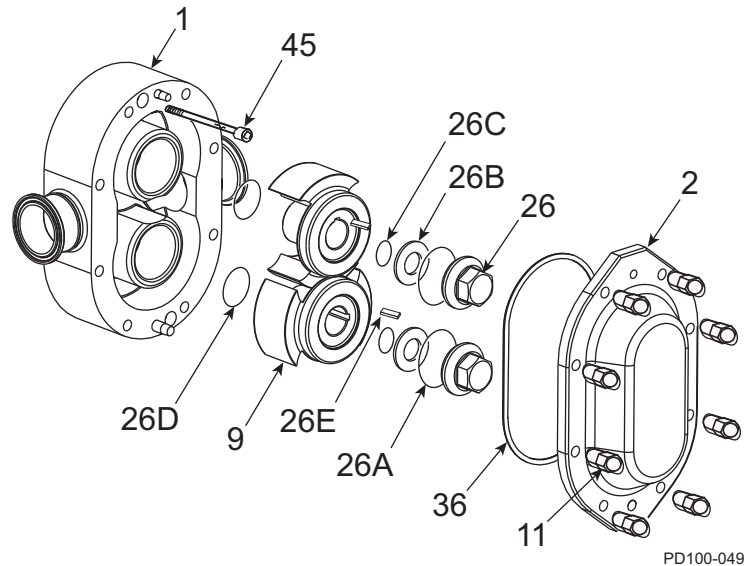
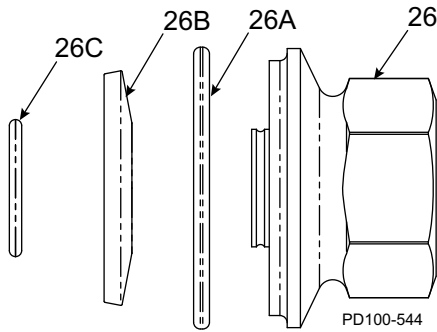
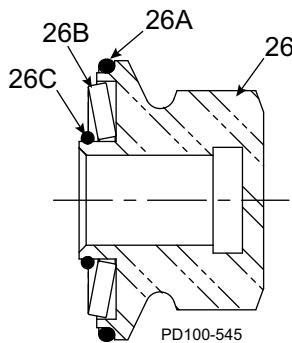

Figure 70 - Exploded View of Fluid Head
Figure 71 - Rotor Nut Assembly
Figure 72 - Cross-Section View of Rotor Nut Assembly, as Assembled
- Install the body (Figure 70, item 1) to the gear case assembly, aligning the body with the body studs. Avoid damaging the seals as the body is drawn over the shafts.
- Secure the body to the gear case using two cap screws (Figure 70, item 45).
- Lubricate the rotor hub O-ring (Figure 70, item 26D) with a lubrication compound compatible with the O-ring material and process fluid(s).
- Install new rotor hub O-rings (item 26D) into the groove on the rotor hubs.
- Install the rotors (item 9) onto the shafts.
- Align the keyways in the rotors with the keyways on the shafts and install the keys (item 26E).
NOTE: For rotor nut assembly detail, including orientation of the belleville-style washer (item 26B), see Figure 71 and Figure 72 on page 50.
See Figure 70 on page 49, and Figure 71 and Figure 72 on this page.
1. Clean the cover O-ring (See Figure 70 on page 49, item 36) and install it in the groove in the cover.
3. Install the cover (See Figure 70 on page 49, item 2) on the pump body.
5. Tighten the cover securely using the cover nuts (See Figure 70 on page 49, item 11) and Table 12.